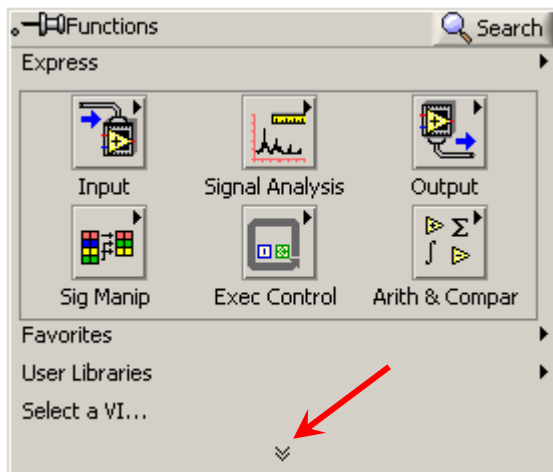

Figure 6-2, Functions Palette
- If the **Function** palette shown in Figure 6-2 is not visible on the Block Diagram, select **View»Functions Palette** to display it.
- **Expand** the Functions Palette by clicking the down-pointing chevrons as indicated by the red arrow in Figure 6-2 (click again to shrink the palette back to the Express view).